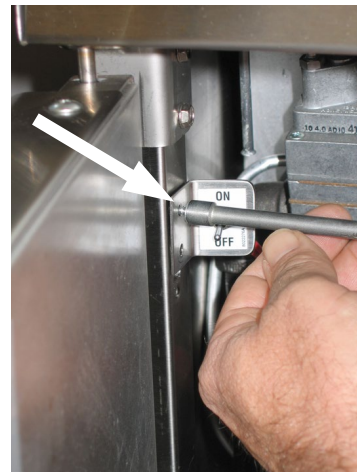

Figure 4: Mount the ON/OFF switch.
4. Mount the ON/OFF switch on the side of the fryer frame, just inside the door (Figure 4).